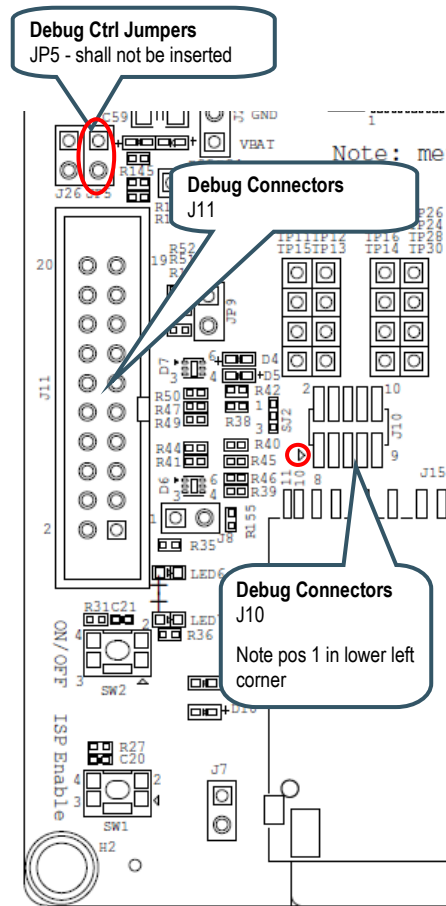

Figure 7 – Debug Interfaces on rev B1 iMX OEM Carrier board
- J10 – this is a Cortex Debug connector. It is a 2x5 pos, 50 mil pitch connector without a shroud. Be careful when inserting the debug probe cable. Position 1 is specifically marked on the PCB silkscreen. It is located in the lower right corner, see Figure 7 below. The connector supports both the SWD and JTAG interfaces.